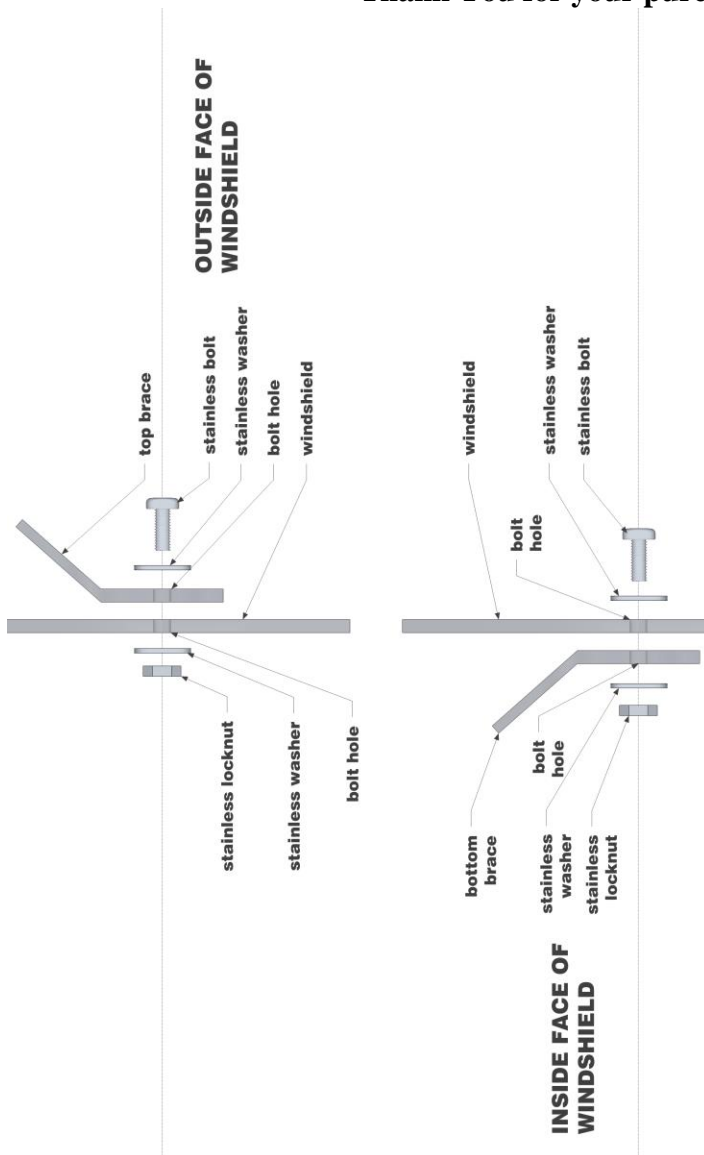

fig.1
3. Install the 53" rubber gasket provided along the bottom of the windshield. Take care to seat the gasket fully to the bottom edge contour. Install the top and bottom braces using 1 stainless bolt, 1 stainless locknut, and 2 stainless washers per hole. On most models, the bottom brace is widest (installed *inside* the windshield), with the narrower brace used at the top (installed *outside* the windshield). Other models use the same brace top and bottom. On the Teryx model in particular, the top brace is trapezoidal in shape to accommodate the factory hard roof. The bolts should be installed through the front of the windshield with the bolt head facing forward, the locknuts on the back of the windshield facing rearward, with one washer under the bolt head and one washer behind the locknut at the rear. Install both braces using this sequence; even though the bottom brace is installed inside the windshield the bolt heads should still face forward, and hardware orientation remains the same as stated above (see fig. 1).